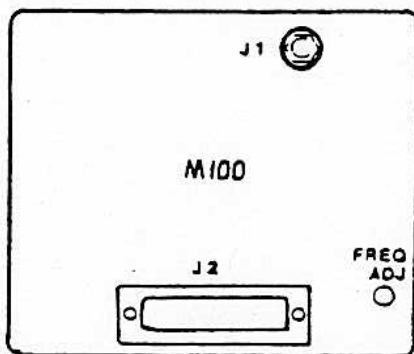

Figure 3.4 Location of M-100 Frequency Adjustment
- 3.3.5 Connect the DMM positive lead to J2 pin H (Figure 3.4 dotted-line connection). Monitor the DMM indication during warm-up.
- 3.4.1 Connect the equipment as shown in Figure 3.4.
- 3.4.7.1 Refer to Figure 3.4 to locate the M-100 frequency adjustment screw access hole.
- 3.5.1 Connect the equipment as illustrated in Figure 3.4.